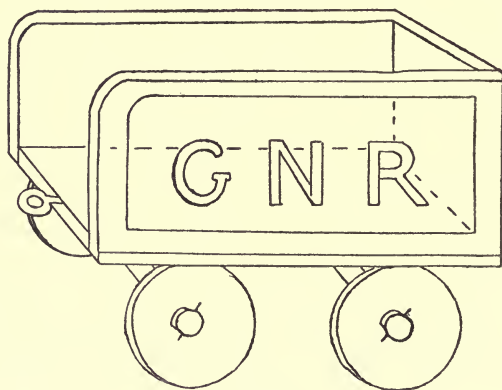

FIG. 233
(2) *The Tender* (Fig. 233) can be made in various ways. The bottom is best made of wood, 4 inches by $2\frac{1}{4}$ inches. The sides may be made of wood, 4 inches by $1\frac{1}{2}$ inches ; the back must be cut to fit exactly between the sides. When the back and the sides are